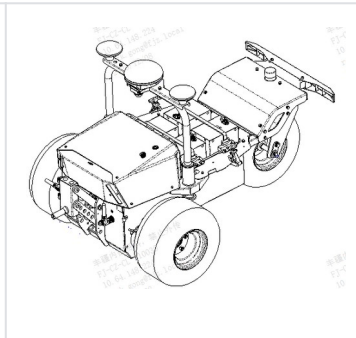

Figure 14
9. Remove the fixed tires of the whole machine and assemble the battery (as shown in Figure 14).